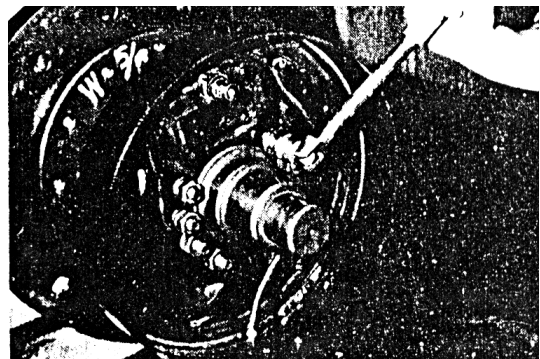

Fig. 8-14
(6) Remove the E-retainer for securing the parking brake cable to the backing plate. Remove the backing plate mounting bolts and detach the backing plate from the drive axle body. (See Fig.8-14)